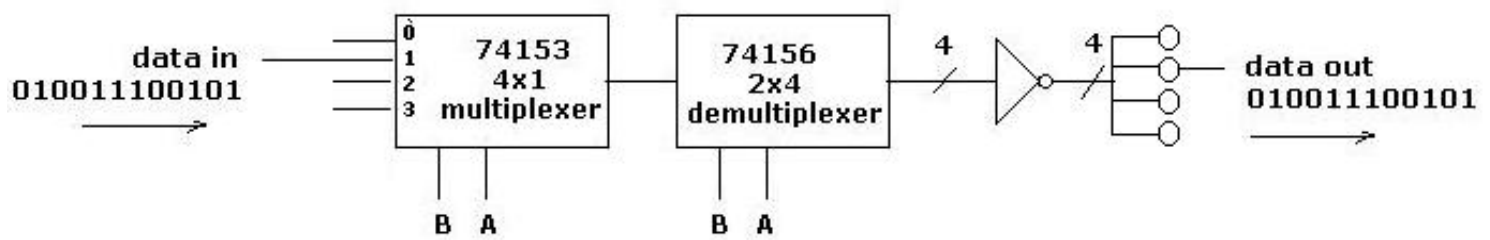

Figure 3
4. Design a data transmission system using Multiplexer and Demultiplexer your design must work similarly blocked design in Figure 3 (Hint: you will use 74156 : 2x4 line decoder with data input, 74153 : 4x1 line data selector/multiplexer with data output, and inverters.)